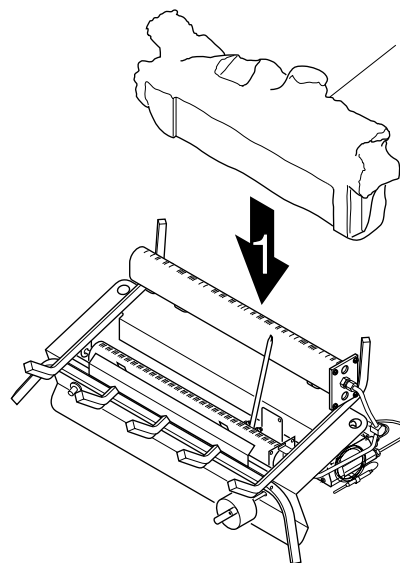

Figure 22 - Installing Rear Log
1. Slide rear log (#1) into place behind rear burner (see Figure 22).